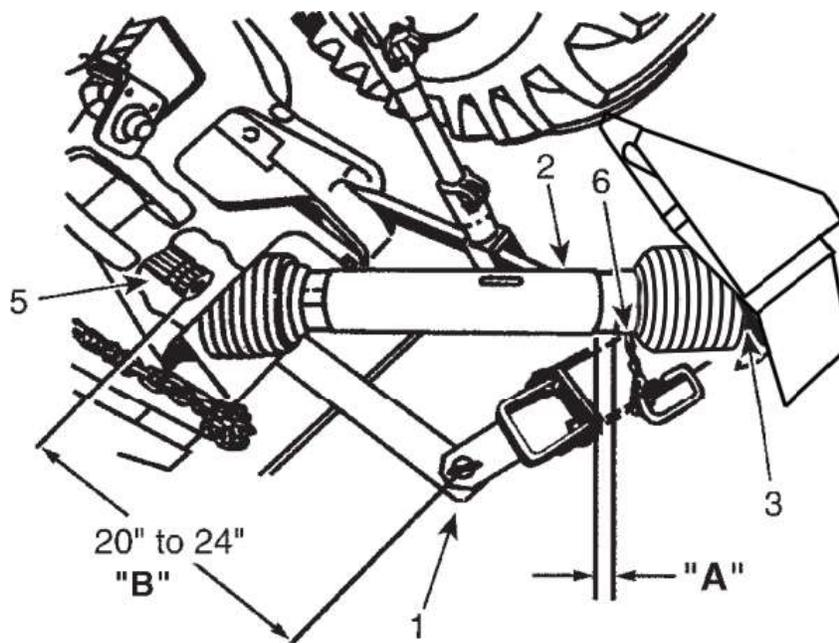

Figure 17 Tractor drawbar length adjustment
CAUTION: To prevent the rotation of the PTO shields, fastening chains (item 6, FIGURE 17) are provided and must be attached on both ends.